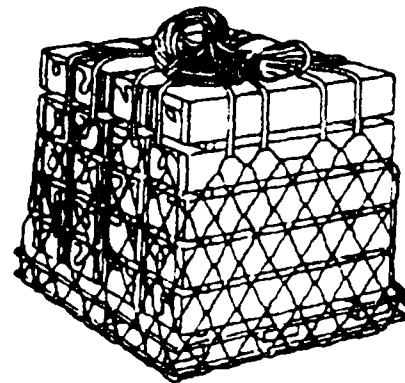

Figure 1-14. Lifting Legs Coiled on Top of Load
Step 8 - Coil the lifting legs on top of the load. The net is now ready for hookup to the helicopter (Figure 1-14). If the load must be moved, carefully guide the forklift forks through the net and